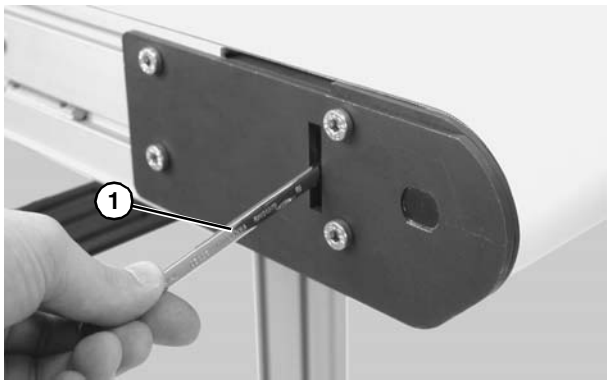
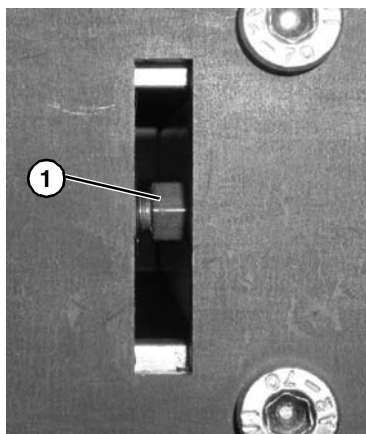

Figure 39
Figure 40
2. With the conveyor running, use wrench (**Figure 39, item 1**) to rotate the tracking screw (**Figure 40, item 1**) in small increments until the belt tracks in the center of the conveyor.